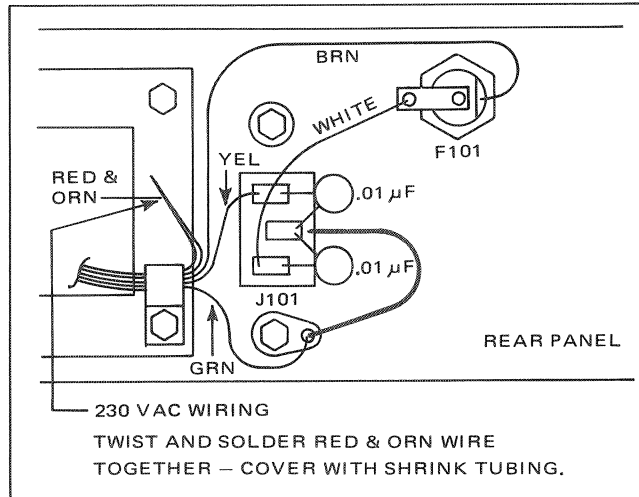

Figure 2.2 - 230V Operation
2.9 Power requirements for domestic units are  $115V \pm 10\%$ , 50 to 400 Hz. Power consumption is 60 watts maximum. All 8000B series counters are adaptable for 230V operation. Figure 2.2 shows input wiring for  $230V \pm 10\%$  line voltage.